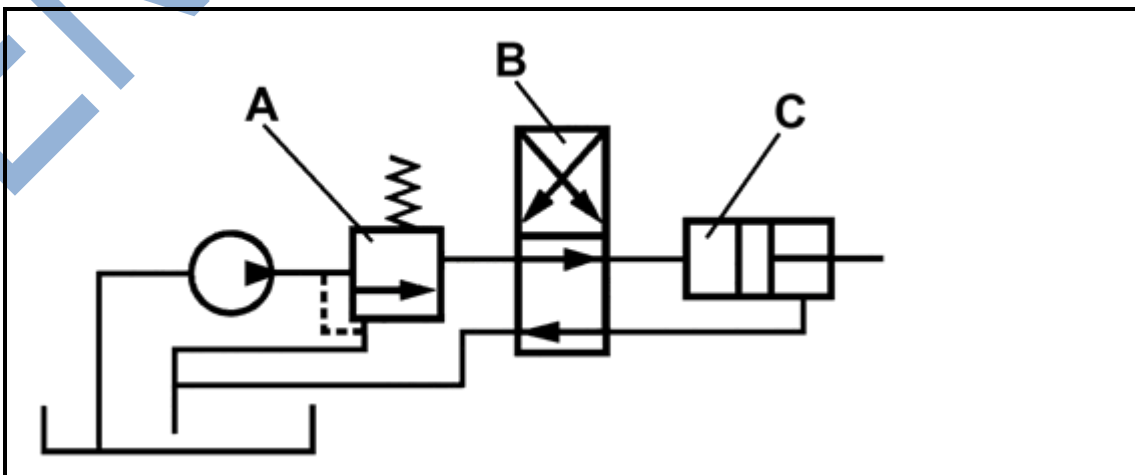

FIGURE 3
- 5.3 FIGURE 3 is a line diagram of a basic hydraulic system. Label the different parts as indicated. Write only the answer next to the letter (A–C) in the ANSWER BOOK.